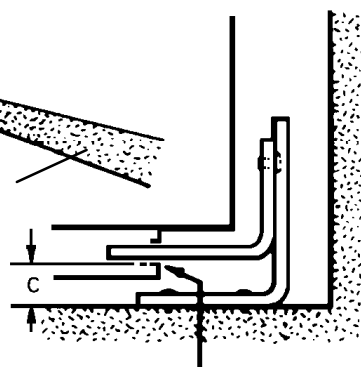

Fig.2b
3. Draw a line 100mm from the front edge of the levelling feet (see Fig 2a) and remove appliance from its position. Mark off dimension 'B' (see Fig 2a) back from this line on the centre line of the bracket to locate the front edge of the lower bracket. Fix lower bracket (with two fixing holes) to the floor then measure the height from floor level to engagement edge on back of appliance, dimension 'C' of Fig. 2b.
- Reposition appliance and check that top bracket engages into appliance back as shown in Fig. 2b.